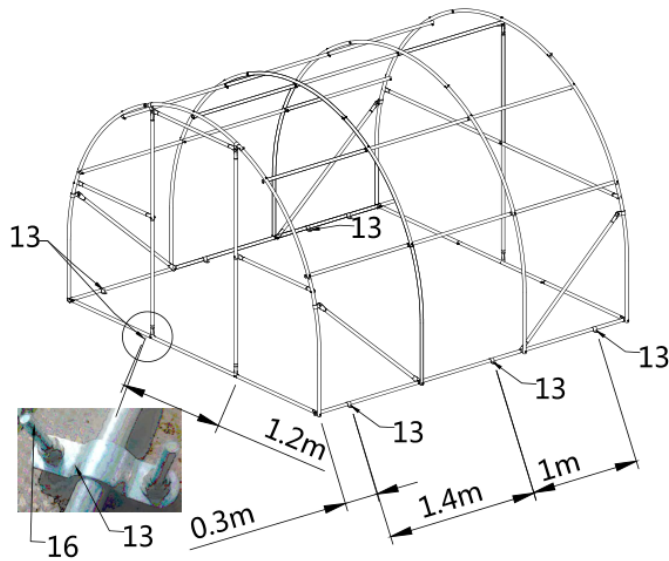

Figure 11
- Fix the roof purl in (#5) and (#5A) close to the ground on the concrete ground with riding clip (#13) and expansion bolt (#16). The installation dimension shown in the figure is for reference (refer to figure 11). If the truss is installed on the earth ground, it needs to be fixed by inserting at least 11 inch steel bars (not equipped with this product cloth) into the riding clamp.
- (10) Riding clip (#13)
- (20) Expansion bolt (#16)